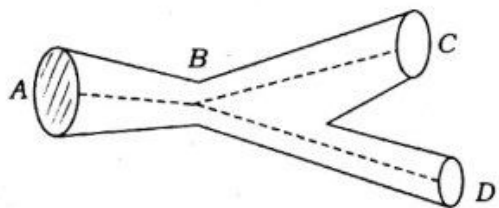

Fig.1
- (b) A pipe branches into two pipes as shown in Fig. 1 below :